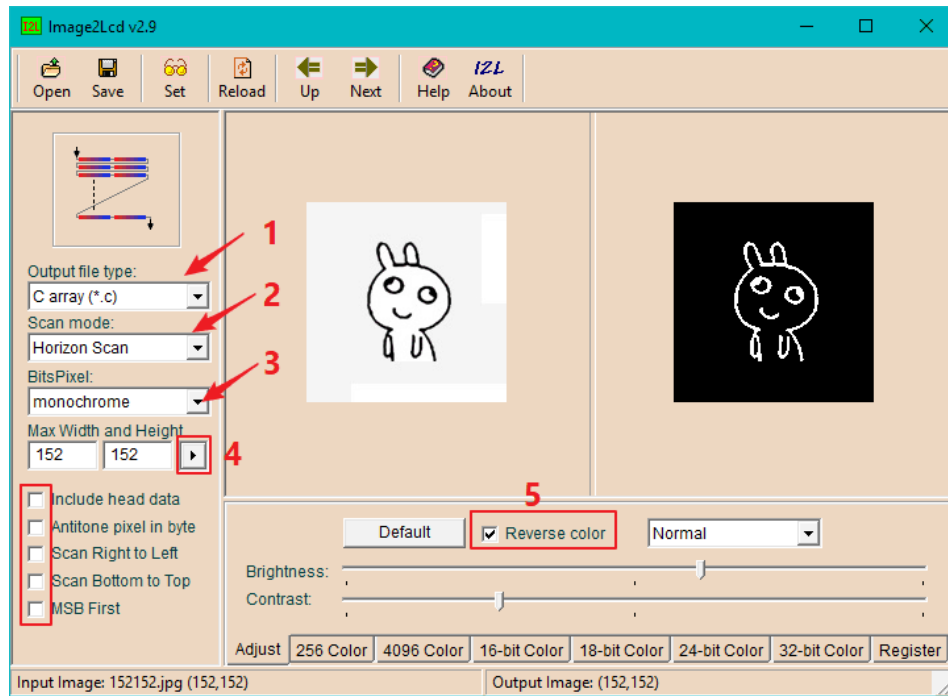

Figure 4. Image2LCD configuration
c.**Image(Reversed)** means you need to check the **Reverse color** option in the **Step 2(Figure 4)**
b.**Image** means do not check the **Reverse color** option in the **Step 2(Figure 4)**